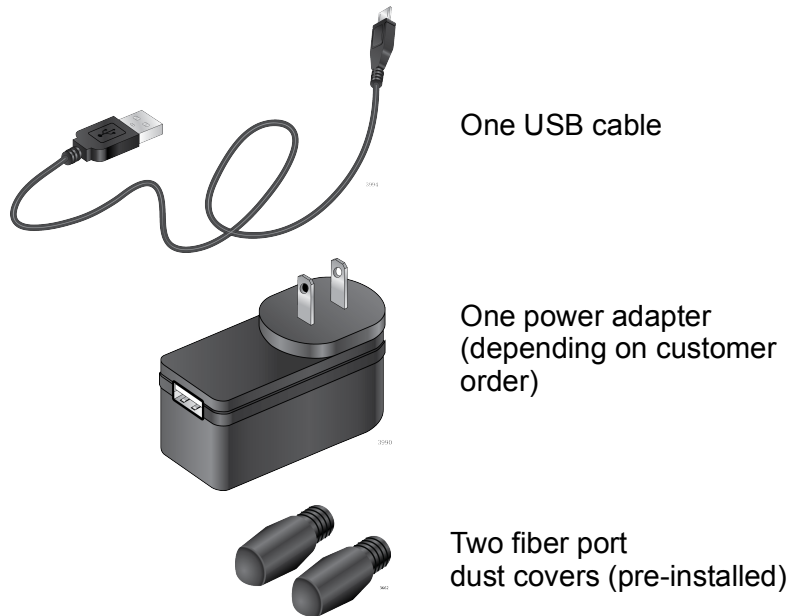

Figure 25. AT-DMC1000/ST and AT-DMC100/ST Shipping Package Contents
- Figure 25 shows shipping container items for the AT-DMC1000/ST and AT-DMC100/ST.